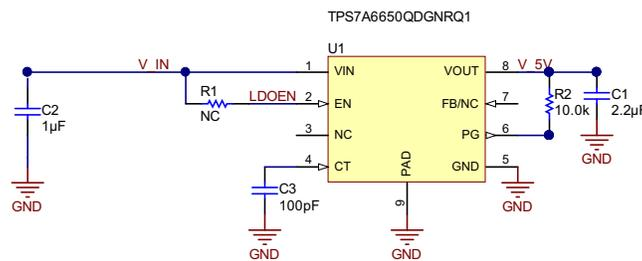

Figure 4. TPS7A6650-Q1
Connect the TPS7A6650-Q1 EN pin to the FAULT pin-bus signal (see Figure 4). When a fault occurs, the TPS7A6650-Q1 turns off the output. No current is consumed from the TLC555-Q1 or the SN74LV164A. Recover when the FAULT bus signal goes high again.
**NOTE:** When an open fault occurs, the LED open fault cannot auto recover because the TPS7A6650-Q1 and the fault channel turn off. The LEDs remain off if users reconnect the open string. To auto-recover the LEDs, remove R9 and solder R1 with 0R, shown in Figure 4. The system must sacrifice a higher fault-mode current.